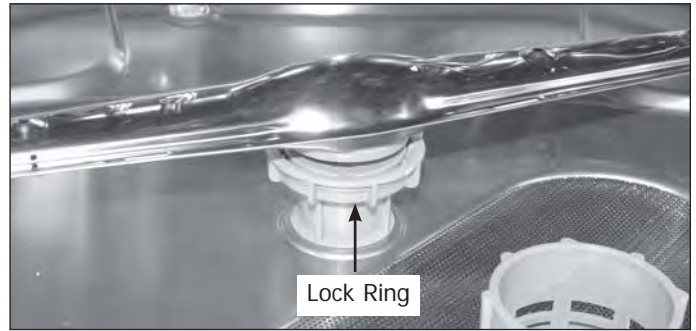

Figure 4-11.
2. The lower spray arm has a lock ring holding it to the spray arm support. Turn the lock nut clockwise to release arm. (See Figure 4-11)